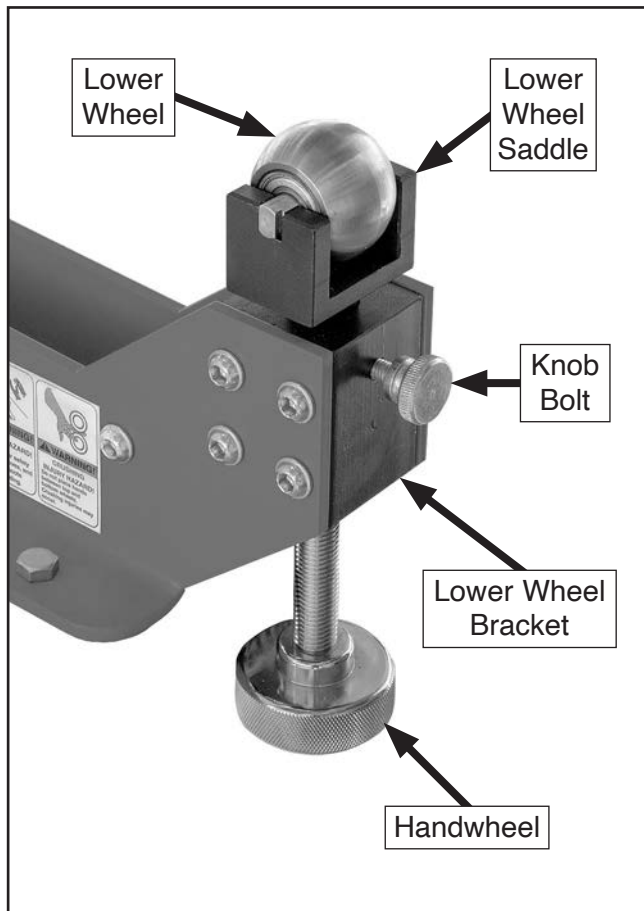

Figure 8. Lower wheel components installed.
4. Insert lower wheel saddle into lower wheel bracket (see **Figure 8**).
5. Thread handwheel into lower wheel bracket and continue tightening until it starts raising lower wheel saddle (see **Figure 8**).
6. Thread knob bolt into lower wheel bracket and tighten to secure (see **Figure 8**).